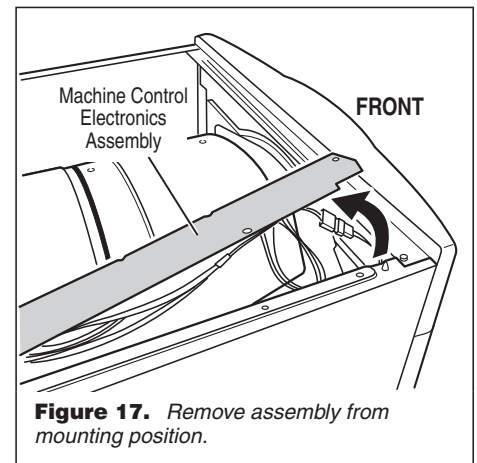

Figure 17. Remove assembly from mounting position.
1. Perform steps 1 and 2 above, then remove the three screws that hold the machine control bracket in place and remove assembly. See figure 17.